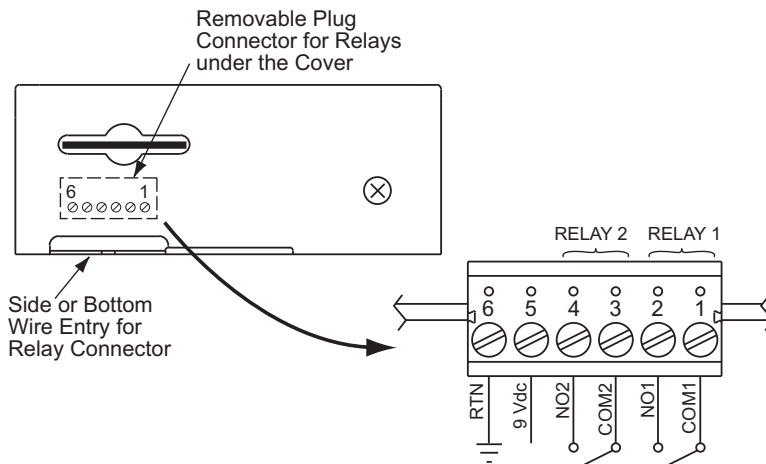

Figure 2.6 Relay Connections
It is recommended that you ground your unit by connecting a wire to the Return/Ground position of the relay connector, see **Figure 2.6**.
- To wire relay connector. (Refer to **Figure 2.6**)